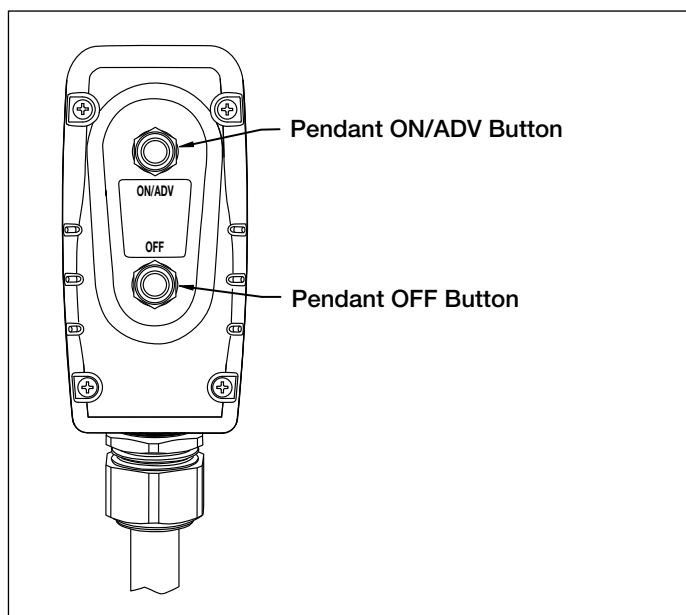

Figure 8, Pendant Buttons
5.2 Pendant Operation (See Figure 8)
5. To start the pump, press the "ON/ADV" button on the pendant. See Figure 8. The motor will start automatically, and the wrench will begin to advance. The wrench will continue advancing for as long as the button is held down.